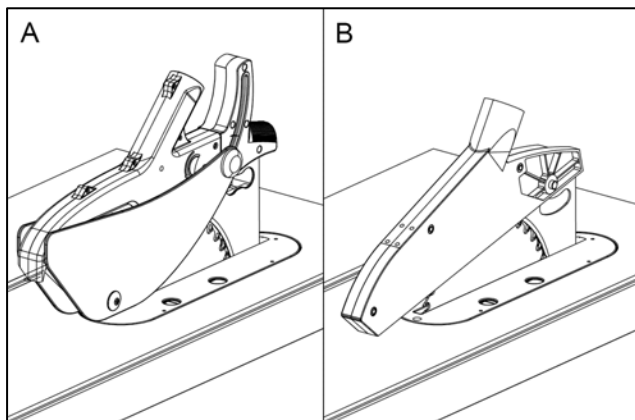

Fig. 17
3. **Fig.17 (A)** shows the blade guard, meeting the UL62841 standard, is suitable for the North American market. **Fig.17(B)** shows the blade guard meeting the CE standard. For different markets, the machine is equipped with different blade guards, please refer to the chapter “**3. Machine Description**” for detailed information.